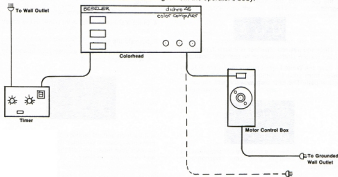

Figure 5
G. The lamp and the electronic power supplies in the colorhead are stabilized. **DO NOT** use an external stabilized power supply unless you are sure the stabilizer output is a good sine wave. The Dichro 45 has two line cords — one for AC line voltage, the other to connect to the timer. The power cord (Fig. 1, item 7) is on the right and should be plugged into the convenience outlet on the enlarger motor box. The six-pin connector on the timer cord (Fig. 1, item 12) is inserted into its counterpart receptacle on the left underside of the colorhead. The two-prong plug is inserted in the "Enlarger" outlet on your timer. See Figure 5 for typical AC connections. You are now ready to begin diffusion printing with your Dichro 45 Computerized Colorhead.